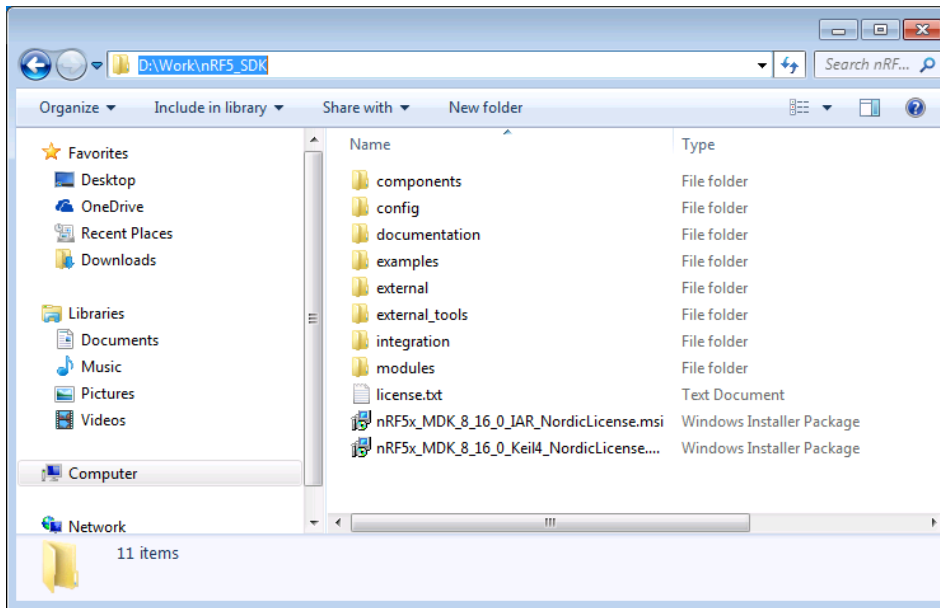

Figure 1: nRF5 SDK Folder Structure
2. Once downloaded, extract and place the SDK in a suitable location on your machine, e.g.: `D:\Work\nRF5_SDK` (Figure 1).